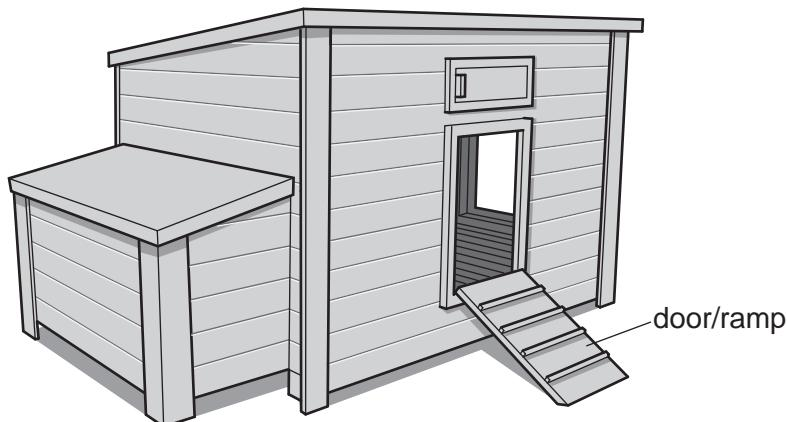

Fig. 8
- 11 Fig. 8 shows a chicken coop. The door/ramp is hinged and has to be opened and closed manually.